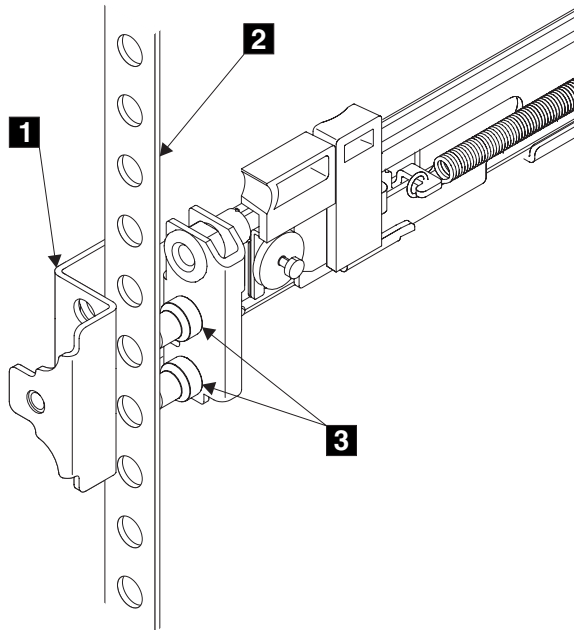

Figure 83. Installing the front end of the rail
9. Place the front end of the left rail in the rack cabinet. Align the top of the front bracket **1** (Figure 83) with the required EIA marking that is on the rack.